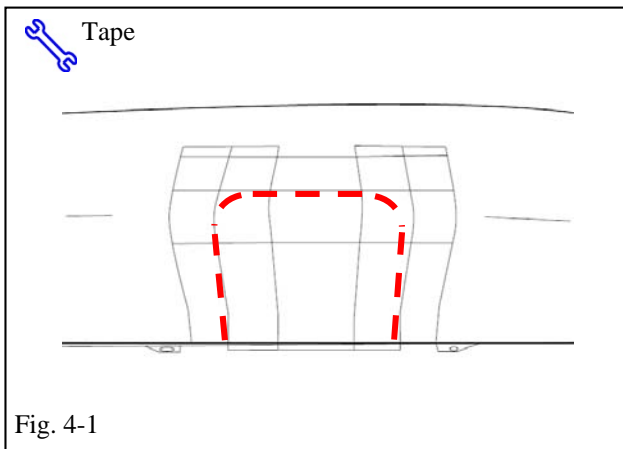

Fig. 4-1
- (d) Generously apply tape to the anticipated cutting area on the bumper cover to protect it from damage (Fig. 4-1).
2. Generously apply tape to the anticipated cutting area on the bumper cover to protect it from damage. See Fig. 4-1.